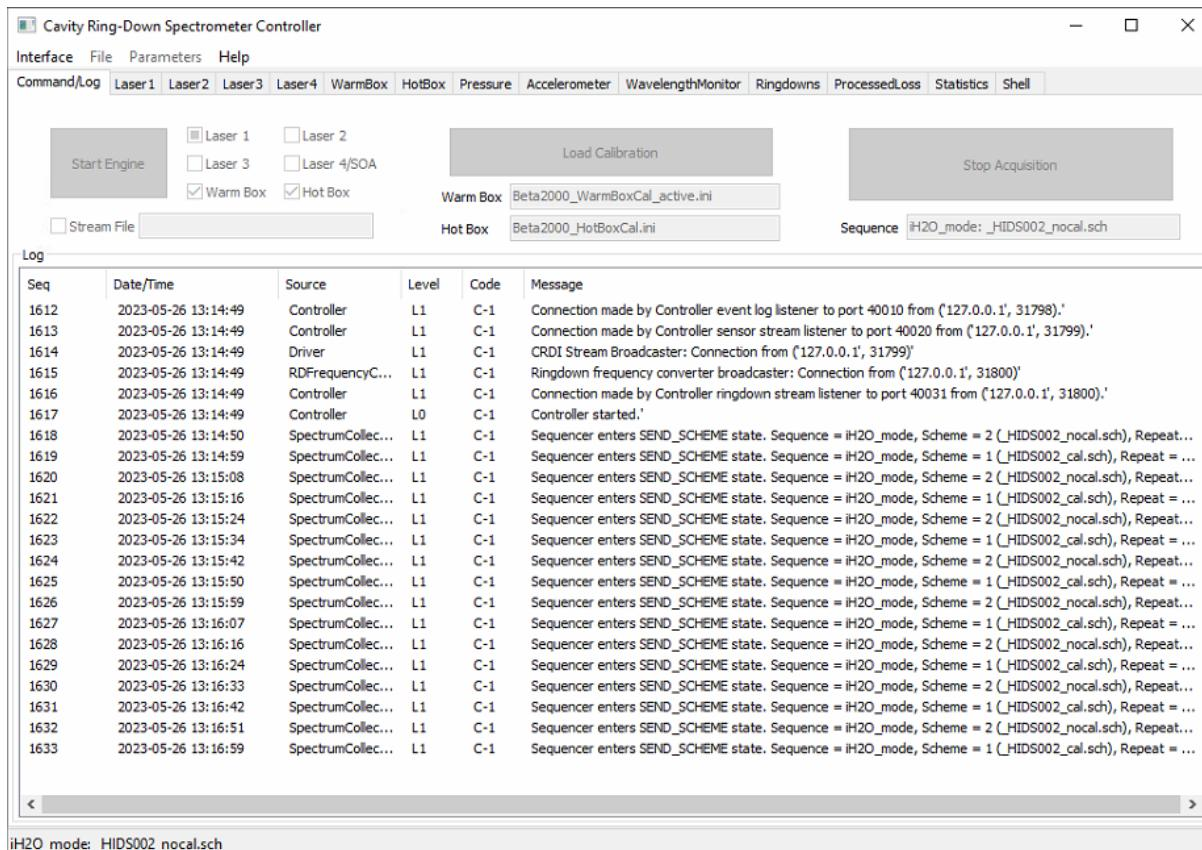

Figure 29: Picarro CRDS Controller Window
- **Picarro Controller:** When clicked, opens a useful diagnostic panel (Figure 29 below) allowing the user to see the analyzer's internal temperatures, pressure, and spectroscopy in real time. This program has user-accessible functions *but should not be used to change instrument parameters without the direction of Picarro support.*